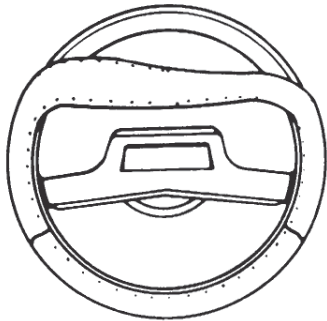

Figure 1
1. Locate the sewn seam on the cover. Place the sewn seam at the 6 o'clock position on the steering wheel. See figure 1. Starting at the bottom, carefully stretching or pulling the cover upwards. Confirm position and adjust as needed to center on wheel.